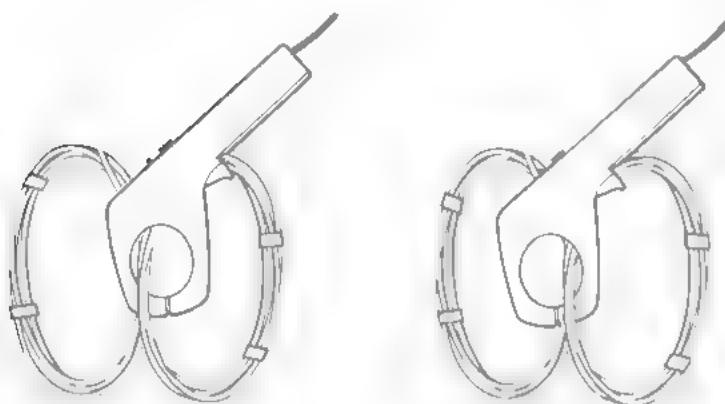

Figure 4-3. Conductor Positions for Hall Generator Balance Adjustment
4. Clamp the probe around the center conductor (Figure 4-3) and move the probe alternately back and forth to position the conductor first at the top and then at the bottom of the aperture. Note the readings and adjust the Hall Generator balance R30 until the top and bottom readings are equal ± 0.3 mV ac